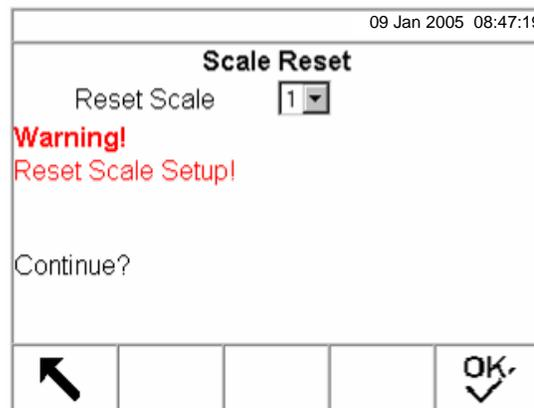

Figure 3-15: Scale Reset Screen
5. Press the ENTER key to open the Scale Reset screen (see Figure 3-15).